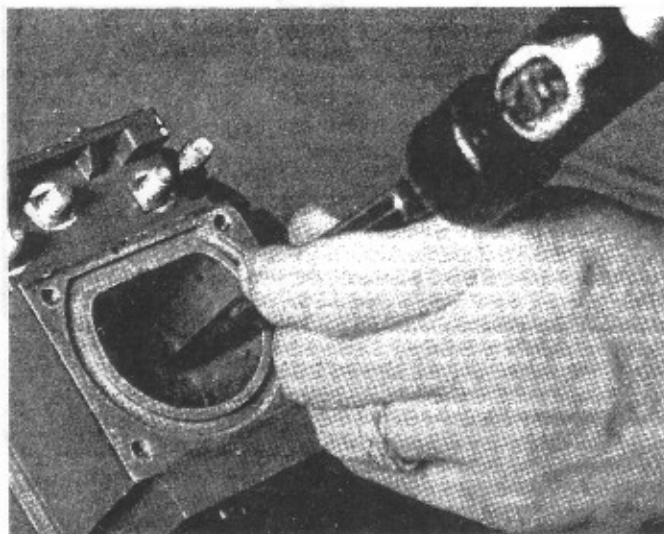

Figure 19
- 3.2 Insert a proper size punch in one of the pilot holes on either side of the bearing. Knock out the seals and bearing. Bearing may be reused provided it is not excessively worn, or damaged during removal. Fig. 19.